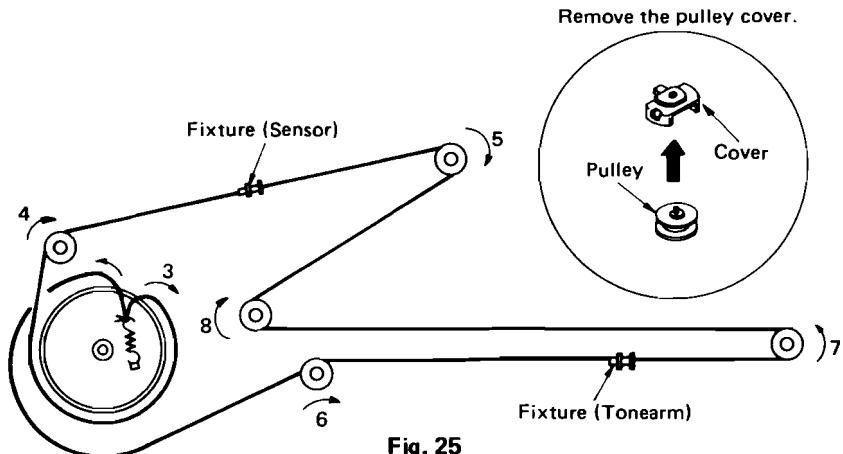

Fig. 25
5. Holding the rope with the hand, set the drive wheel and rope in the order of 3 ~ 8 of Fig. 25.